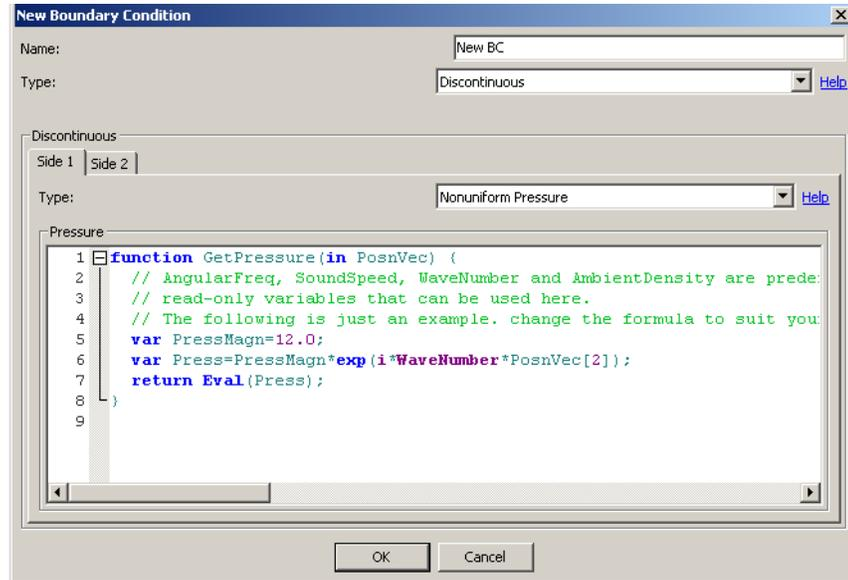

Figure 6.37 Discontinuous Non-Uniform Pressure
**6.6.10.3. Non-uniform Pressure** This Boundary Condition is applied on the side of the element where pressure varies with position. The pressure is defined in the script by the function *GetPressure*, which takes in the predefined position vector *PosnVec* as the argument. Other predefined variables that can be used in the script are *AngularFreq* ( $\omega$ ), *GetSoundSpeed*("MaterialName") ( $c$ ), *GetWaveNumber*("MaterialName") ( $k = \frac{\omega}{c}$ ), and *GetAmbientDensity*("MaterialName") ( $\rho$ ). (Figure 6.37)